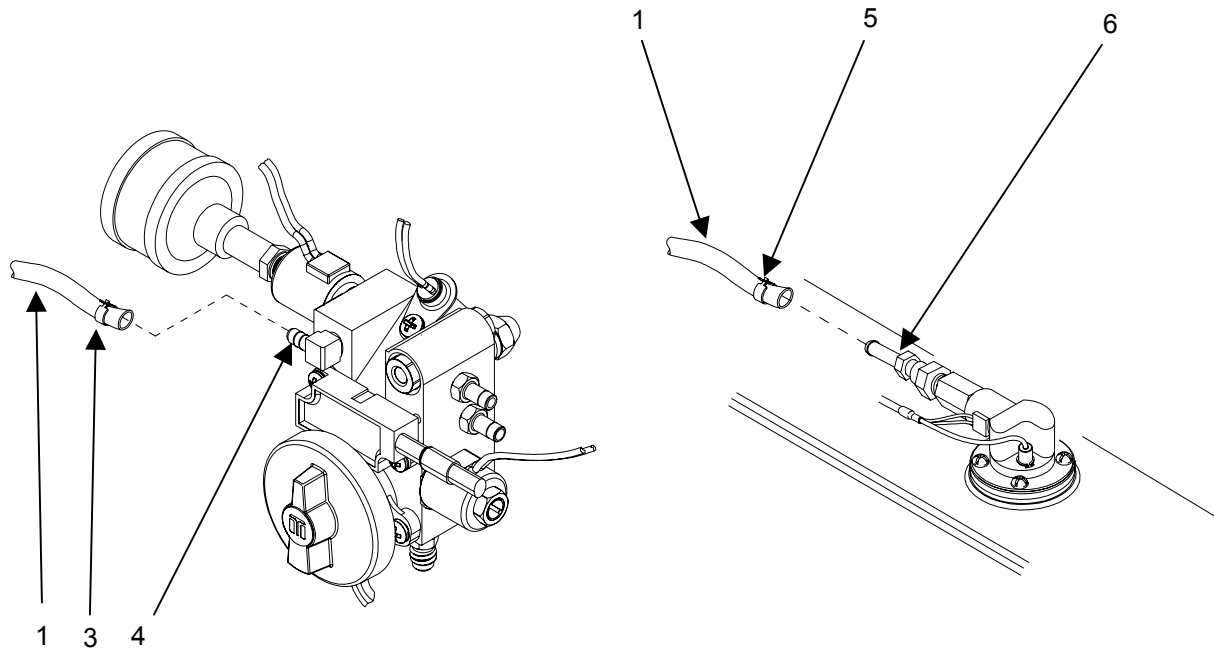

Figure 16. Replace the Neoprene Fuel Line
1. To replace the air line (**figure 16, item 1**), temporarily remove the Fuel Delivery Block (**figure 16, item 2**) from the Burner Tube mounting studs IAW procedures given in WP 0025 00, "Remove/Install the Fuel Delivery Block".
2. Squeeze the tabs on hose clamp (**figure 16, item 3**) with a pair of pliers and slide the clamp off the fuel delivery block fitting (**figure 16, item 4**) and onto the neoprene line (**figure 16, item 1**). If it is necessary to replace the fitting, remove with a wrench and install a new fitting.
3. Squeeze the tabs on hose clamp (**figure 16, item 5**) with a pair of pliers and slide the clamp off the vent valve fitting (**figure 16, item 6**) and onto the fuel line (**figure 16, item 1**).
4. After removing the clamp, grasp the end of the fuel line (**figure 16, item 1**) connected to the fuel delivery block fitting (**figure 16, item 4**) and pull while wiggling from side to side, until the line is free.
5. Remove the end of the fuel line (**figure 16, item 1**) connected to the vent valve fitting (**figure 16, item 6**) in a similar manner. Be sure to wipe up any fuel that may have dripped from the line. If the vent valve fitting needs replacement, unscrew and install a new vent valve fitting.
6. Using the damaged fuel line (**figure 16, item 1**) as a size guide, cut a new piece of fuel line of the same length from the bulk supply of neoprene hose.
7. Remove the clamps (**figure 16, item 3, figure 16, item 5**) from the damaged fuel line and install on the new line, sliding each about 1-1/2 to 2 inches from the end.
8. Reinstall the new line, pushing one end fully onto the fuel delivery block fitting (**figure 16, item 4**) and the other end onto the vent valve fitting (**figure 16, item 6**).
9. Squeeze the tabs on the clamps (**figure 16, item 3, figure 16, item 5**) with a pair of pliers and slide one clamp up on the fuel delivery block fitting (**figure 16, item 4**) and the other end onto the vent assembly fitting (**figure 16, item 6**). Be sure to position the tabs so that they can be easily accessed should service be required at a later date.
10. Install the Fuel Delivery Block (**figure 16, item 2**) onto the burner tube mounting studs IAW procedures given in WP 0025 00, "Remove/Install the Fuel Delivery Block".